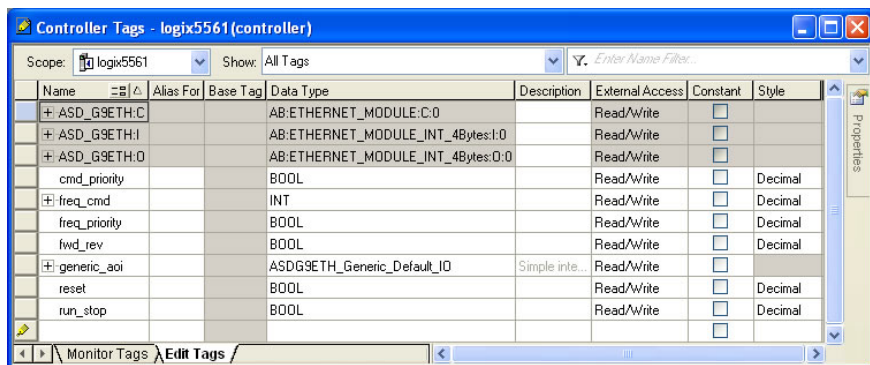

Figure 84: Create Generic Default AOI Tags
- 4) Create the tags in Figure 84.